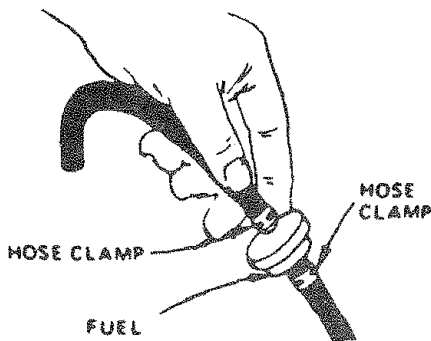

FIGURE 27
- With engine cool, remove filter and plug fuel line sections as removed from both ends of fuel filter (Fig. 27).